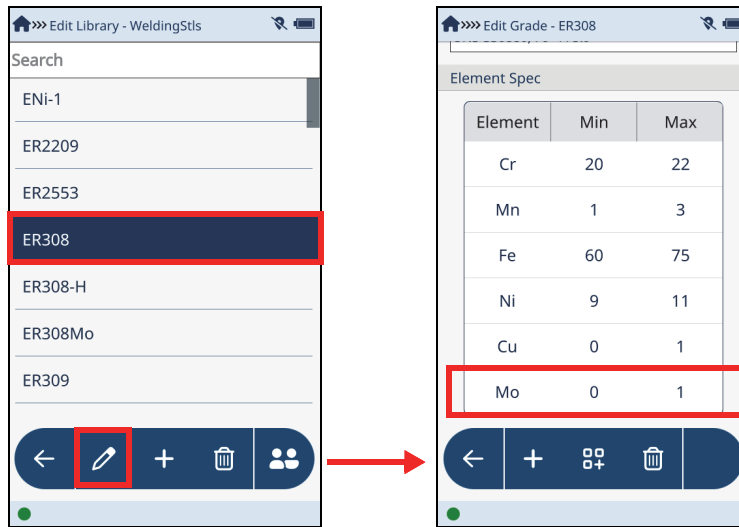

Figure 2-76 Edit Library screen (left), Edit Grade screen (right)
2. Tap to highlight a library grade, and then tap the **Edit** button () to open the **Edit Grade** screen (see Figure 2-76 on page 89).